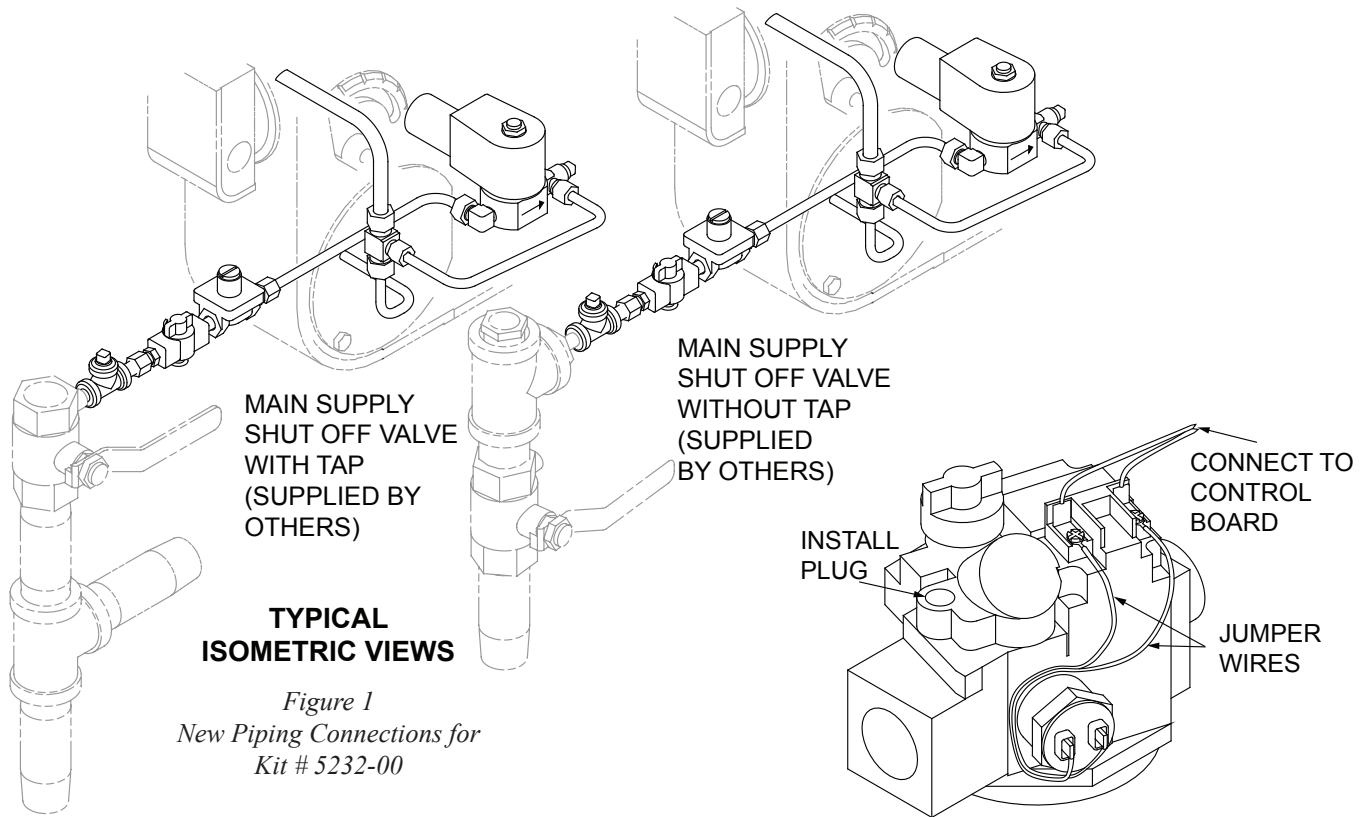

Figure 1
8. Pipe together 1/8" tee, 1/8" 'B' cock, 1/8" Reg and 1/8" x 1/4" Tube brass connector as shown in Figure 1 on page 2 of this document.